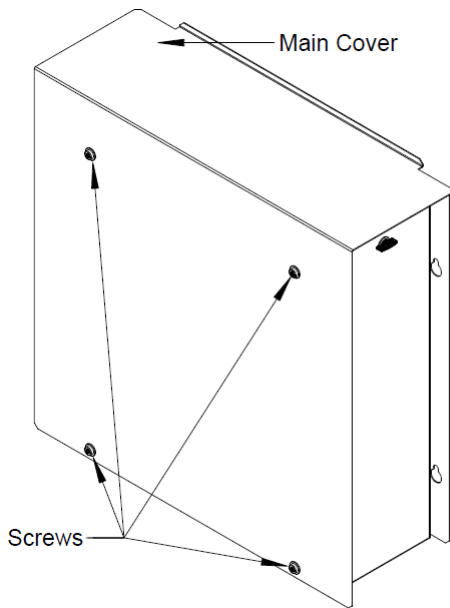

Figure A1
- Remove the Main cover from the left hand side of the housing. (4 screws) - Figure A1